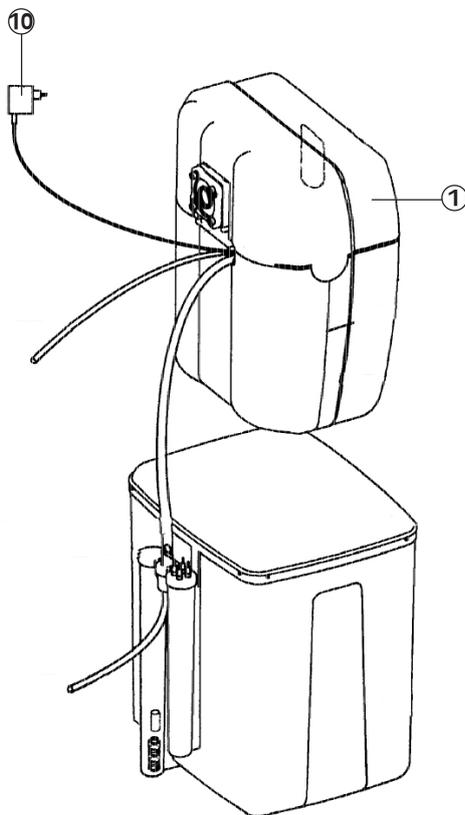

Fig. 2
- a) Remove the cover of the control unit (1) (fig. 2).